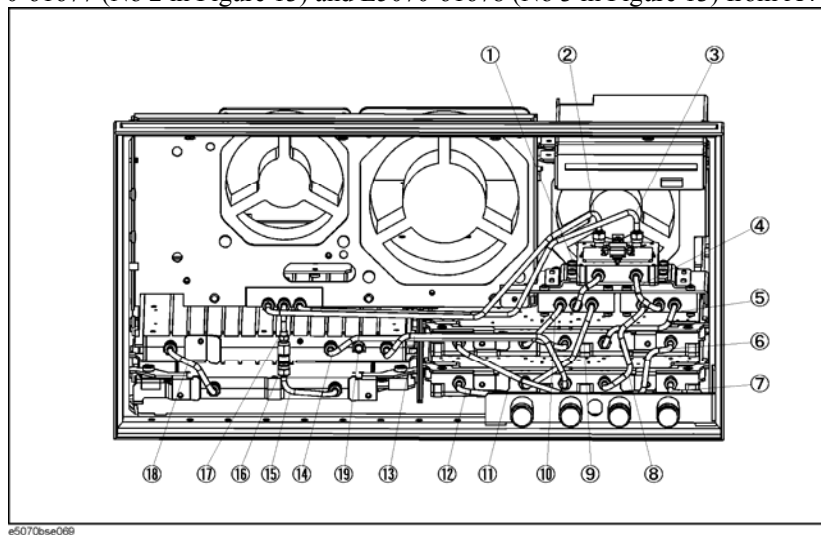

Figure 13 Front View (Semirigid Cables Opt. 413 before modification)
5. Remove E5070-61685 (No 1 and No 4 in Figure 13) semi-rigid cables from A4 and A8 (receiver side)
6. Remove E5070-61677 (No 2 in Figure 13) and E5070-61678 (No 3 in Figure 13) from A4 and A8 (source side)